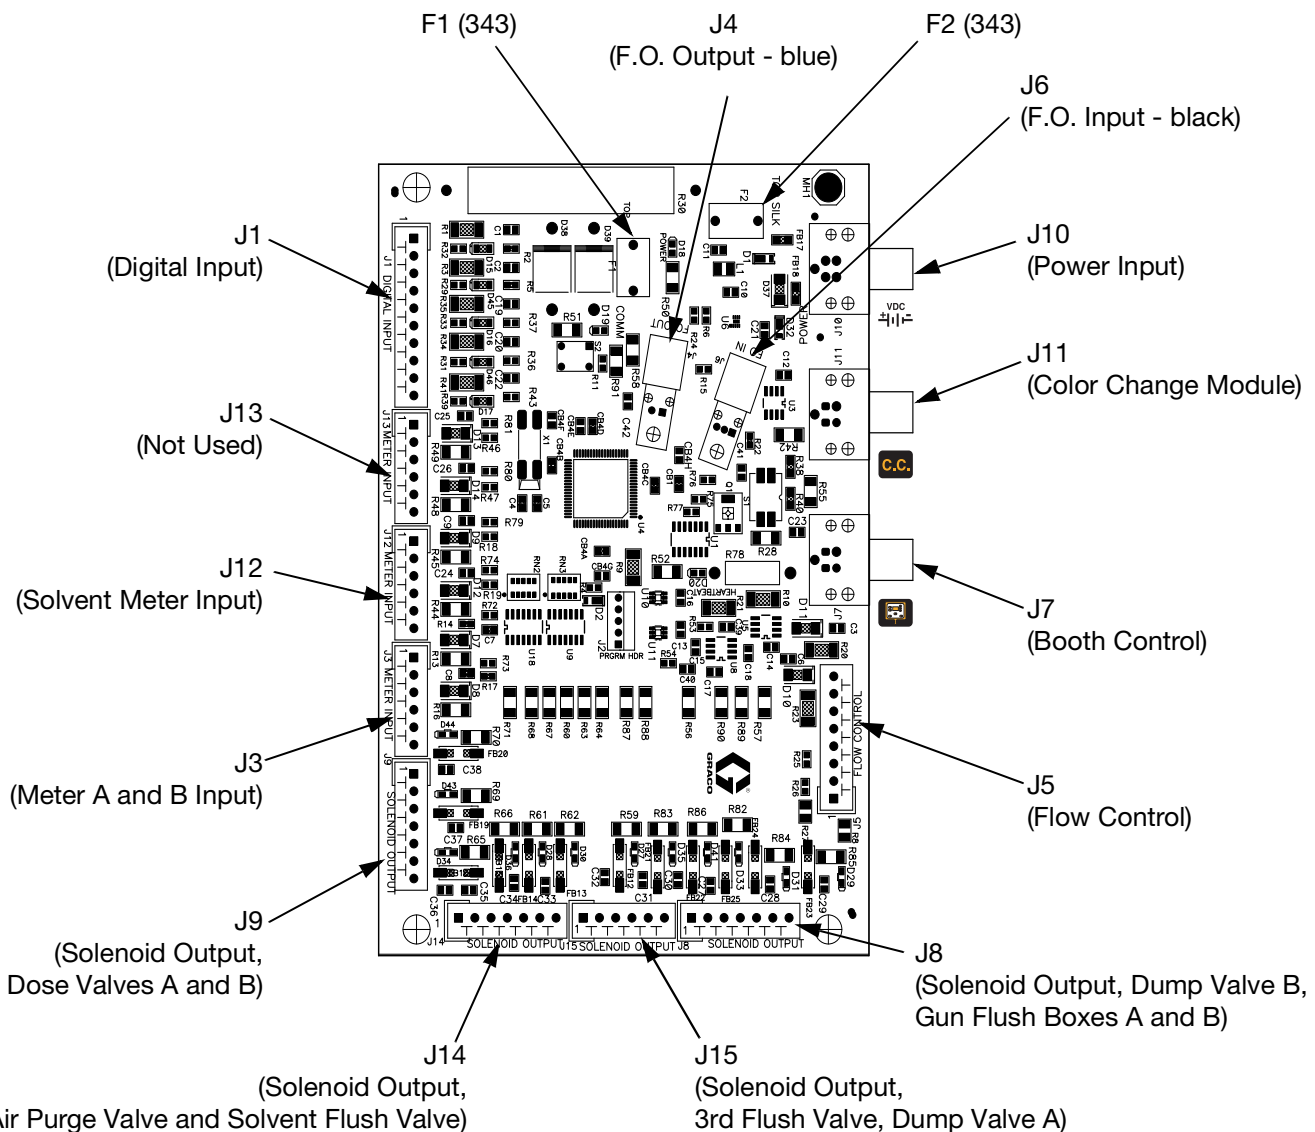

FIG. 21: 255765 Fluid Station Control Board
2. Disconnect fiber optic wires (J4, J6) and all cables (J1, J3, J5, J7, J8, J9, J12, J13, J14, J15) from control board (302). FIG. 21.
4. Install new control board (302) with 4 screws (303).
5. Connect cables to control board (302). FIG. 21. Insert fiber optic cable connectors into board connectors (J4, J6), matching blue with blue, black with black, and hand-tighten connectors. Do not pinch or kink the fiber optic cables; the cables require a 2 in. (51 mm) bend radius.
6. Replace the cover (322).